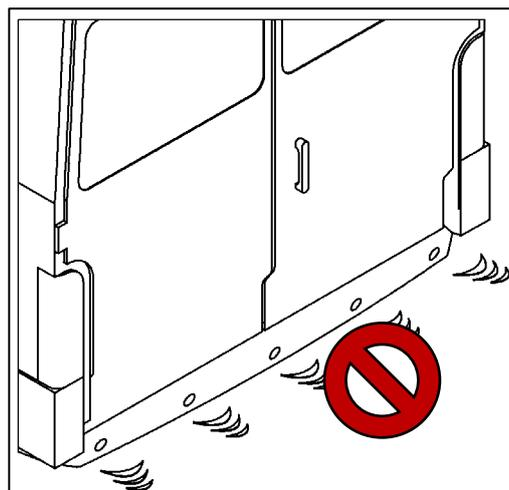

Figure 10
- For vehicles with rear parking sensors, the sensors will no longer function correctly once the platform is installed, because the lifting gear interferes with the sensors (see Fig. 10).